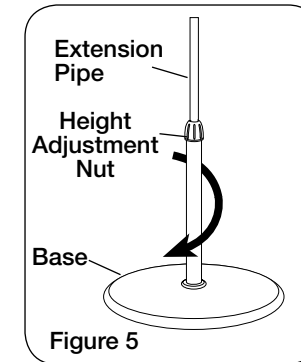

Figure 5
1. With a twisting motion, insert the end of the large diameter pipe into hole in **Base**. (*Figure 5*) Turning pipe while pushing will assure pipe is fully seated in **Base**.